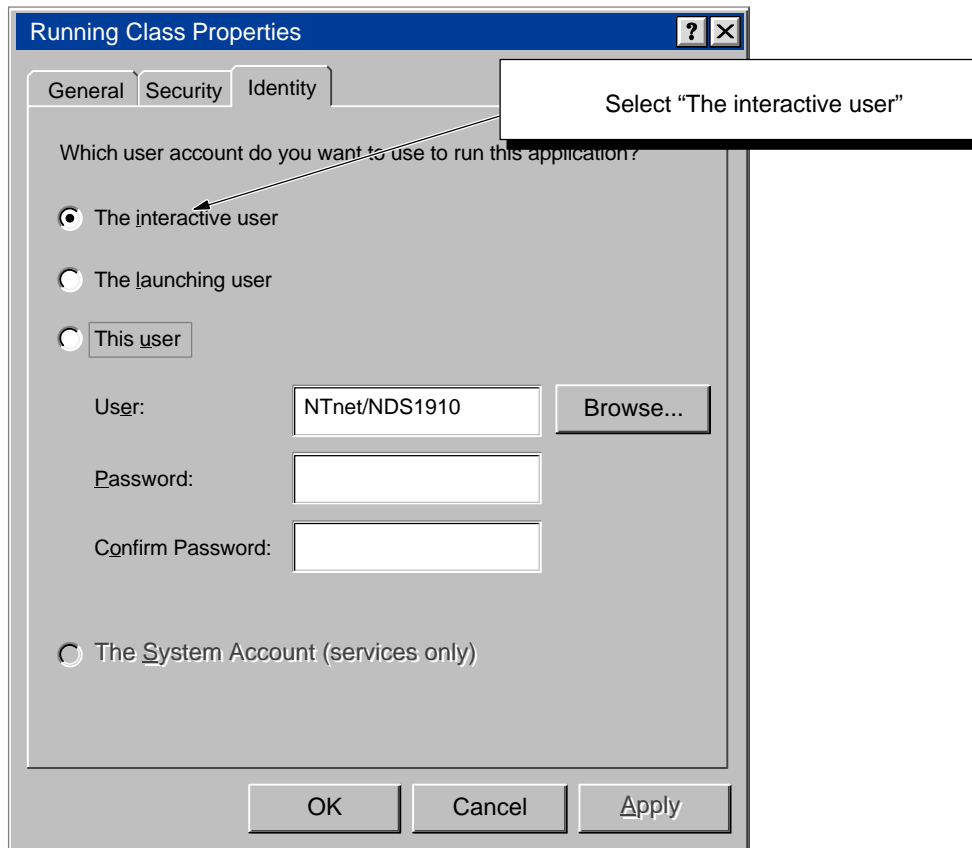

Figure D-11 Configuring the DCOM Identity Permissions for the Server
1. Click on the Identity tab and select the “The Interactive User”. See Figure D-11.